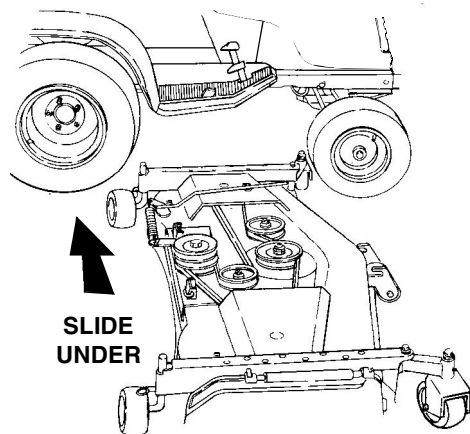

Figure 2-3
- Position the deck on the right side of the tractor with the front of the deck facing toward the front of the tractor (Refer to Figure 2-3).